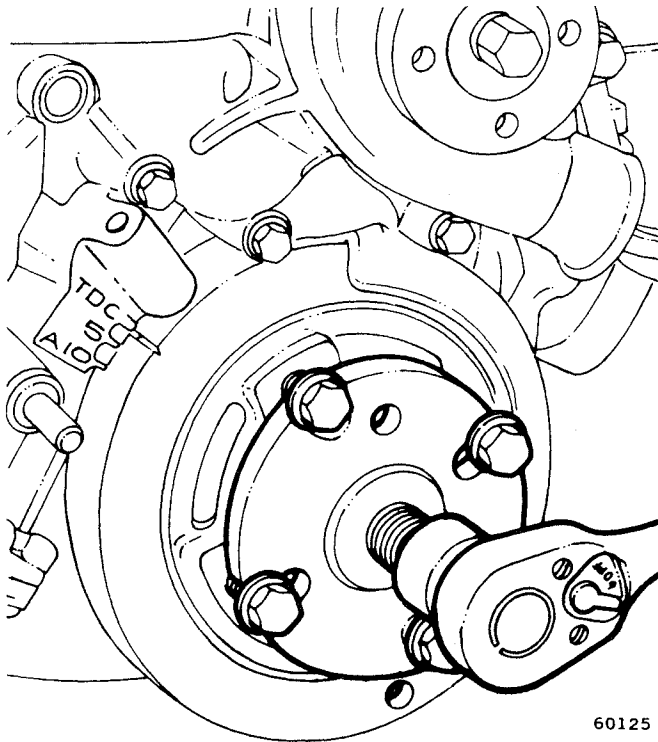

Fig. 1B-110 Vibration Damper Removal
- (1) Loosen damper retaining screw.
- (2) Loosen alternator drive belt.
- (3) Loosen air conditioning drive belt, if equipped, and move aside.
(4) Loosen power steering drive belt, if equipped, and move aside.
(5) Remove damper drive pulley retaining screws. Remove damper pulley from vibration damper.
(6) Remove damper retaining screw and washer.
(7) Use Vibration Damper Removal Tool J-21791 to remove damper from crankshaft (fig. 1B-110).